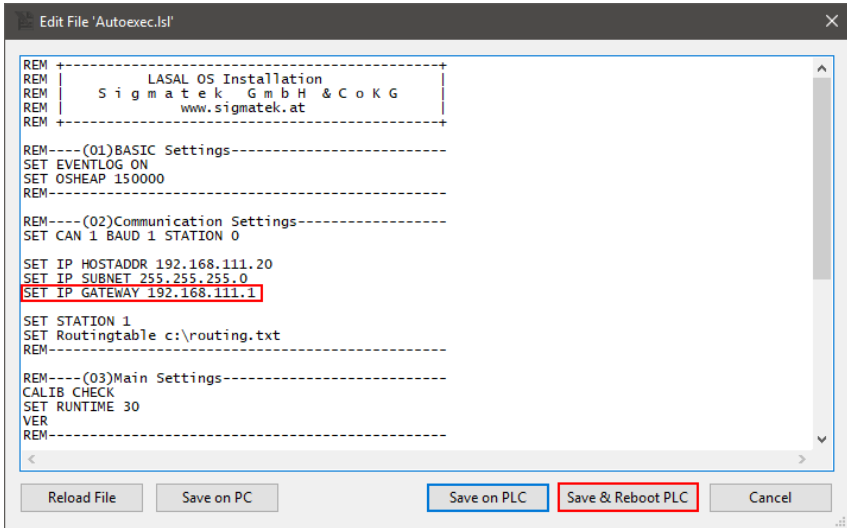

Figure 6.103 Entering the IP gateway into the Autoexec.Isl.
- b. Set the gateway to the router IP address (Figure 6.103). This can be found via the RAP main interface > Device > Info > LAN.